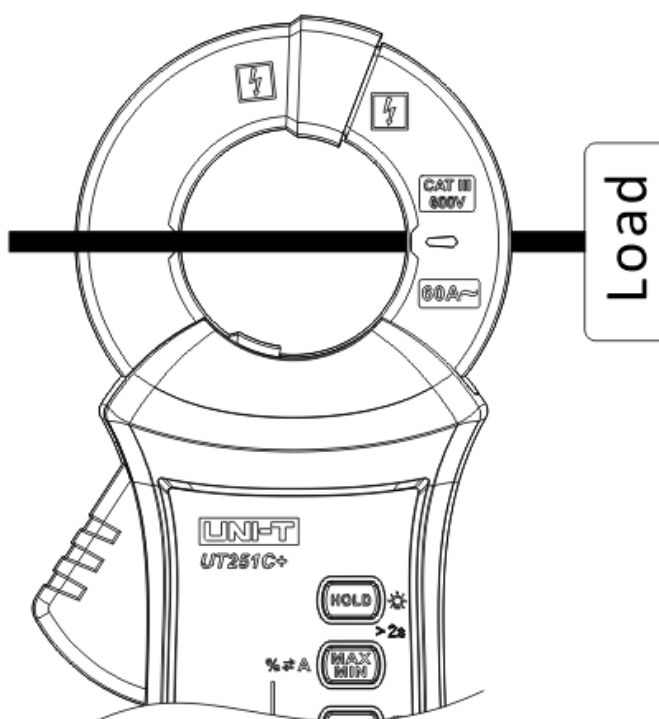

Figure 2-4 Measuring AC leakage current for one of the loop wires
- 5) Clamp one of the loop wires and measure its AC current, as shown in Figure 2-4.
2. Harmonics Measurement (Figure 2-4)